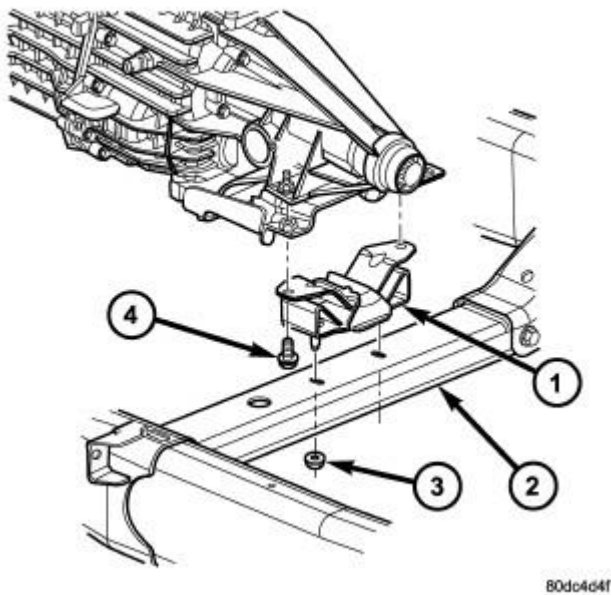

Fig. 116: Transmission Mount, Crossmember & Fasteners
3. Remove the nuts from the transmission mount (1).
5. Raise the transmission enough to remove the mount from the crossmember (2). Refer to **Fig. 116**.
6. Remove the mount (1).